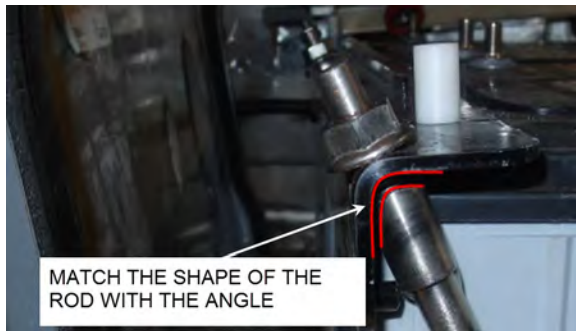

FIGURE 52: SHAPE OF THE ROD
3. The upper end of the rods is shaped to match with the angle (FIGURE 52).